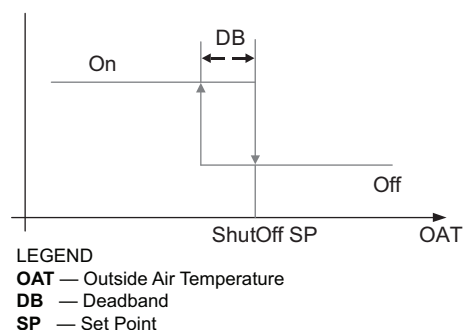

Fig. 58 — Hysteresis Settings
Hysteresis setting (DB) defaults to 2°F (–17°C). See Fig. 58.